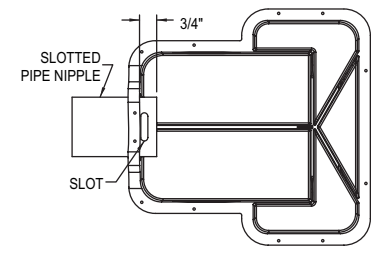

Figure 2.4
- 2.3) Insert slotted pipe nipple through the inlet hole and pipe seal, pushing through about $\frac{3}{4}$ ". See Figure 2.4.